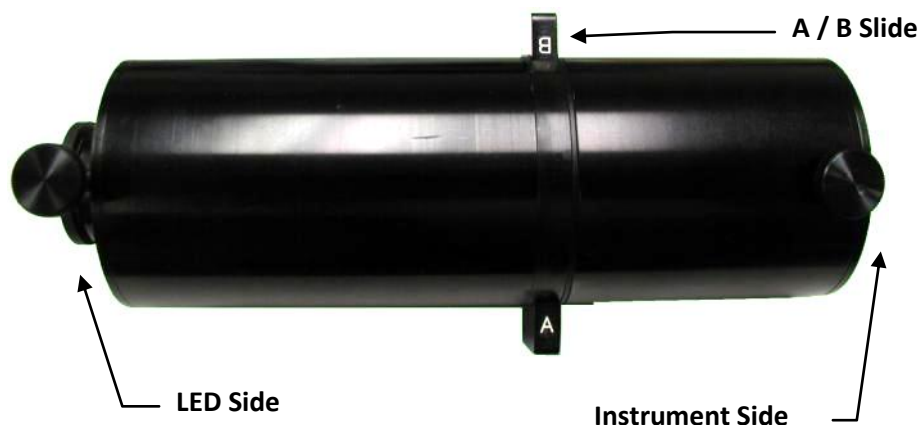

FIGURE 61 - LR-127
2. Remove the lens mount (Instrument Side – see Figure 61) by loosening the thumb screw that secures the mount to the main section of the LR-127.
2. Insert the LED adapter into the main section of the LR-127 (LED Side – see Figure 61) then tighten the thumb screw to secure it.